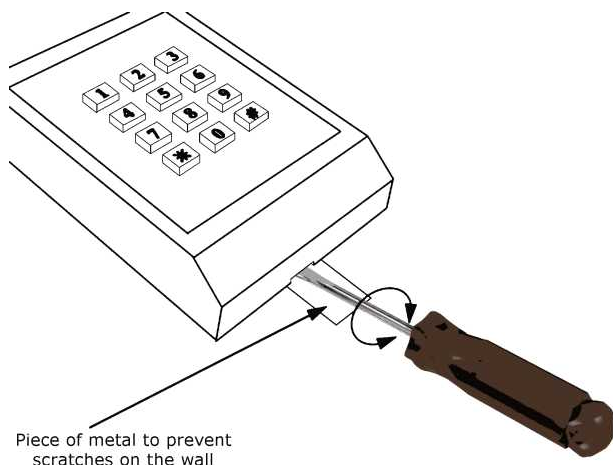

FIGURE 1: SNAPPING OPEN THE COVER
To convert from KP-6840 to SP-6820: Snap off the KP-6840's front cover (see Figure 1). Unplug the keypad assembly by pulling it straight forward. Snap an SP-6820 cover (available from AWID) on the base card reader.
To return that SP-6820 to the original KP-6840 Rev. E: Snap off the SP-6820's front cover (see Fig. 1). Plug the *original* keypad assembly into the base reader, aligning the 6 pins and pressing straight in firmly. Snap the original KP-6840 cover on the unit.
2. Snap open the reader's top cover by inserting a wide screwdriver blade into the slot at the bottom edge of the cover, then twisting the blade gently (see Figure 1). **Do not remove** the keypad from the reader.